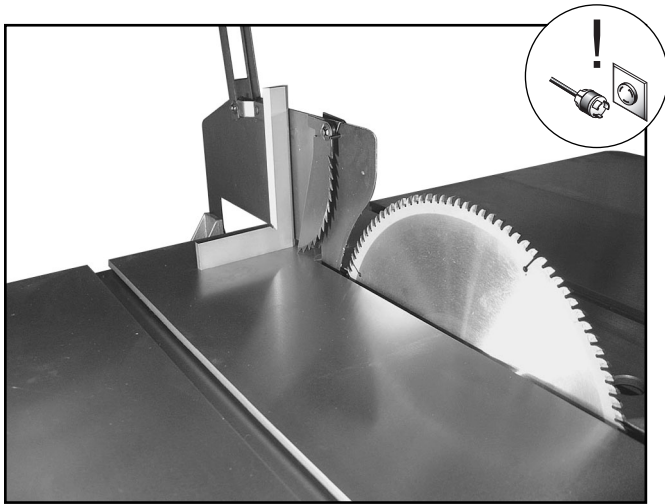

Figure 15. Guard assembly square to table.
2. Set a machinist's square against the face of the blade guard/splitter. Slightly rotate the rear bracket to adjust the face of the blade guard perpendicular to the table top as shown in **Figure 15**.